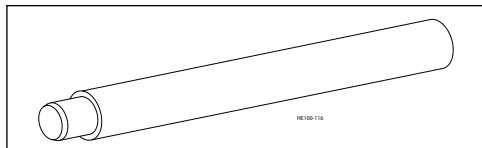

Figure 24 - Head Removal Tool
- Head Removal Tool (HRT), part number LL121191. (See Figure 24.)